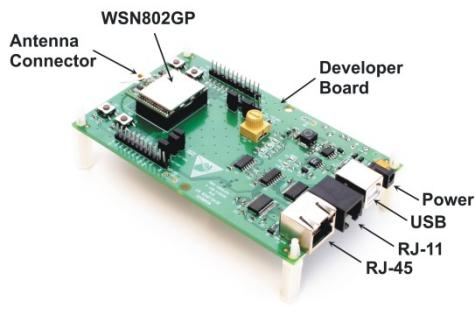

Figure 8.3.1
1. Observe ESD precautions when handling the WSN802GDK/WSN802GADK developer board. Referring to Figures 8.3.1 and 8.3.2, install the patch antenna on the WSN802GDK developer board antenna connector. The antenna "snaps" onto the connector with moderate pressure. The patch antenna is not required for the WSN802GADK developer board.
2. Install an AC plug on the 9 V developer board power supply. Plug the power supply cable into the developer board power connector as shown Figure 8.3.1, and plug the 9 V power supply into AC.